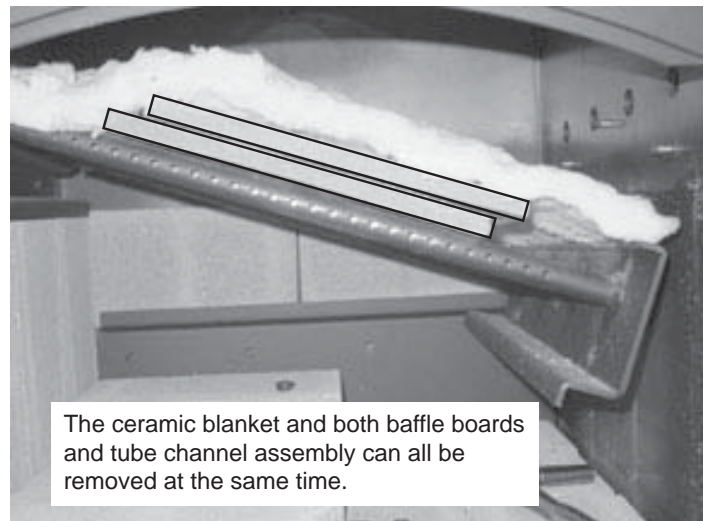

Figure 19.3
2. The baffle board has 2 pieces. With the ceramic blanket still in place, slide one baffle piece over the top of other one and pull out top piece through the door opening and then remove bottom baffle piece. **Figure 19.3**